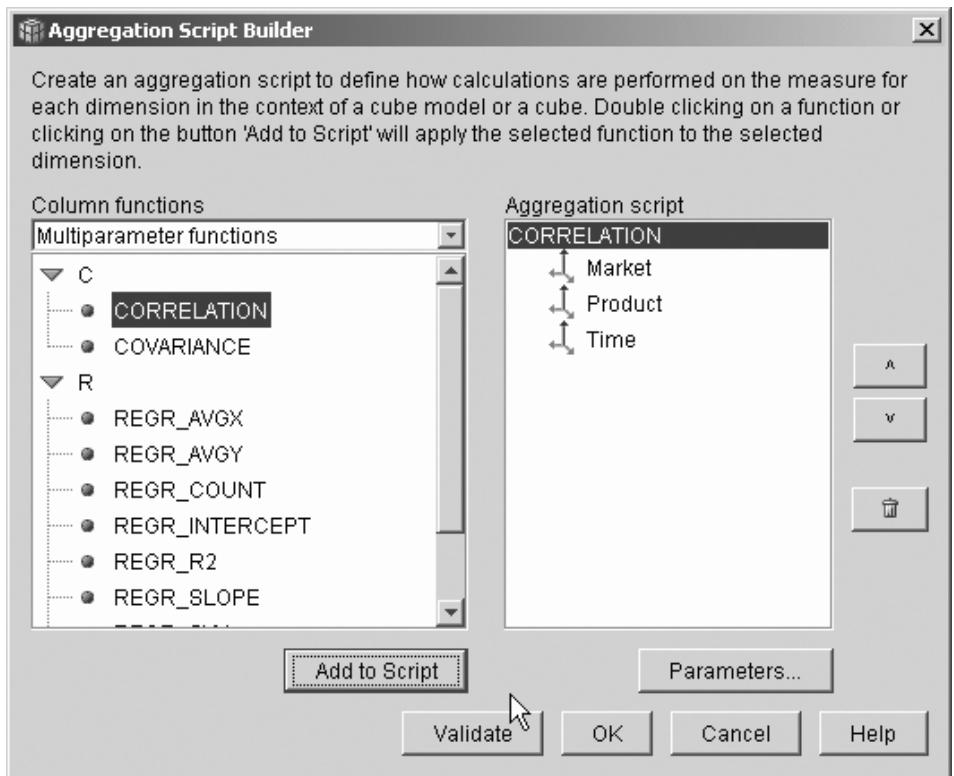

Figure 5. Aggregation script for the Advertising-Sales Correlation measure
- In the **Column functions** field, select **Multiparameter functions**. In the list of multiparameter functions, select the **CORRELATION** function and click **Add to Script**. Figure 5 on page 10 shows that the **CORRELATION** function is at the top of the list of dimensions in the script.